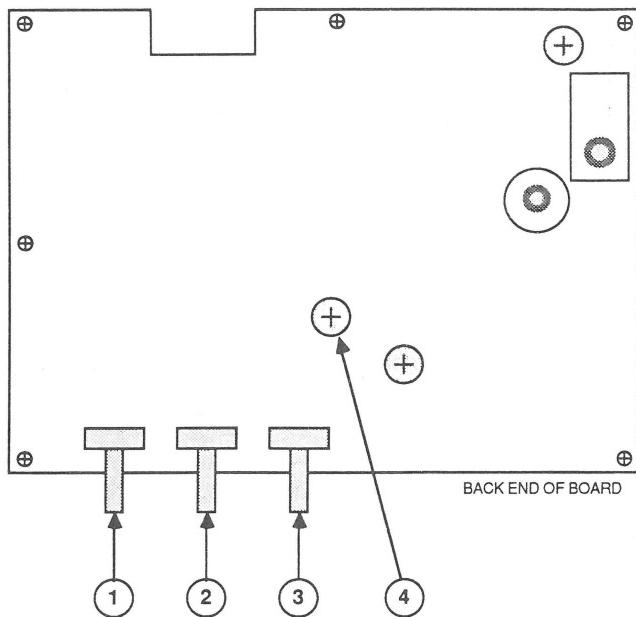

FIGURE 12
1. Set the vertical hold control R302 (see Figure 12, #1) near the mechanical center of its rotation. This should lock the picture on the screen and prevent any rolling.
2. If the vertical linearity is off, adjust R307 (see Figure 12, #4) until the best linearity is found. Compare top and bottom characters or grid boxes and try to get them even. It's possible to reach the end of the adjustment range of the pot and find that the linearity is still not correct. That's because the height adjustment can affect the linearity. If this happens, leave the pot at the end of its range and proceed to step 3.
3. If the vertical height of the image is incorrect, adjust R305 (see Figure 12, #2) until the desired height is obtained. A good method is as follows:
- b) Turn the brightness control R506 (see Figure 12, #3) clockwise until you can see black edges at the top and bottom of the screen. If you don't see black edges on the top and bottom, turn the height pot R305 counterclockwise until the pattern is squeezed and the black area appears. If the pattern becomes blurred, then the brightness control is turned too far.